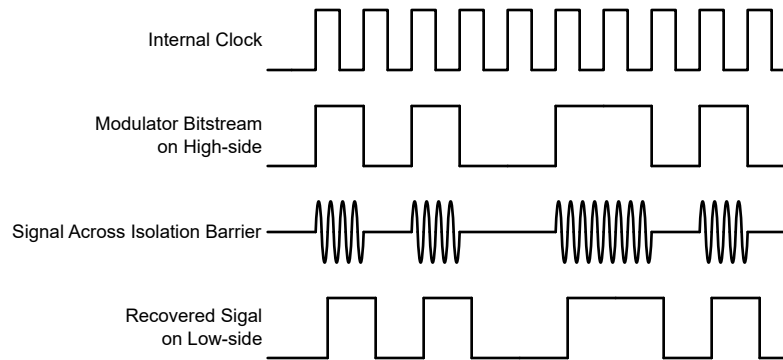

Figure 7-4. OOK-Based Modulation Scheme
As shown in Figure 7-4, the AMC0x06M25 uses an on-off keying (OOK) modulation scheme to transmit the modulator output bitstream across the SiO₂-based isolation barrier. The transmit driver (TX) is illustrated in the Functional Block Diagram. TX transmits an internally generated, high-frequency carrier across the isolation barrier to represent a digital one. However, TX does not send a signal to represent a digital zero. The nominal frequency of the carrier used inside the AMC0x06M25 is 480MHz.